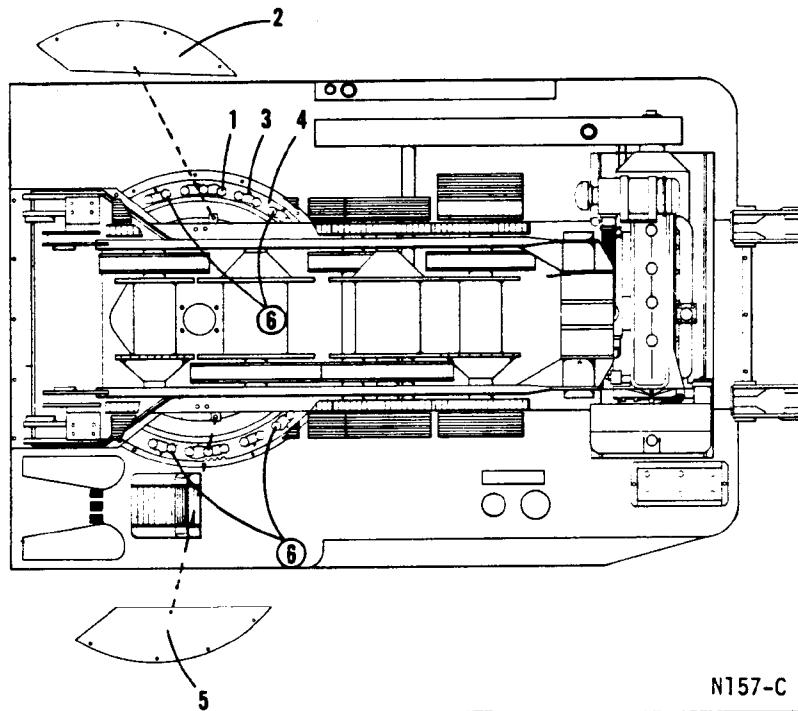

Fig. 2
- (d) Remove bearing cover plates from both sides of the revolving frame to expose the bearing. (item 2 and 5, fig. 2).
- (e) Install four positioning studs (6 in Fig. 2), in the tapped holes in the carrier frame or mounting base.
(d) Remove tie wire from four capscREws (6 in Fig. 2). Remove these four capscREws and replace with positioning studs.